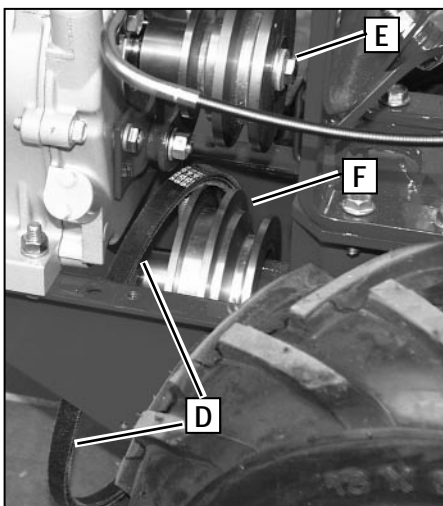
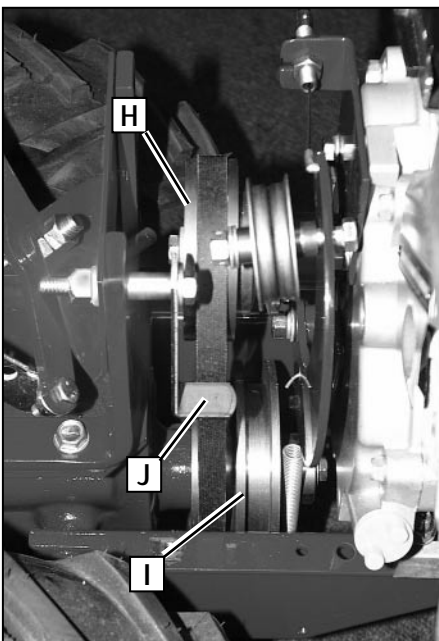

Figure 5-16: Remove forward drive belt.
Figure 5-18: Install forward belt on transmission (lower) pulley and then on engine (upper) pulley.
5. Move the forward drive belt (D, Figure 5-16) completely off the engine drive pulley (E) by moving it to the rear (away from engine) of the pulley. If necessary, work the belt off the pulley with your left hand while pulling the engine recoil starter rope with your right hand.
6. Push the belt downward and then remove it by slipping it over the front of the transmission pulley (F, Figure 5-16). **NOTE:** If the belt will not pass between
2. From the front of the tiller, insert the belt in between the bottom of the engine drive pulley and the top of the transmission pulley (see Figure 5-16). Put the bottom half of the belt into the rearmost groove in the transmission pulley (I, Figure 5-18). Now put the top half of the belt into the rearmost groove of the engine drive pulley (H).